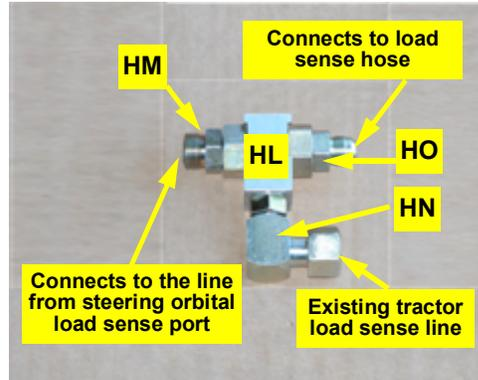

Figure 6a: Prepared load sense shuttle
- a. Prepare the load sense shuttle **HL** with fittings **HM**, **HN** and **HO** (Figure 6a).